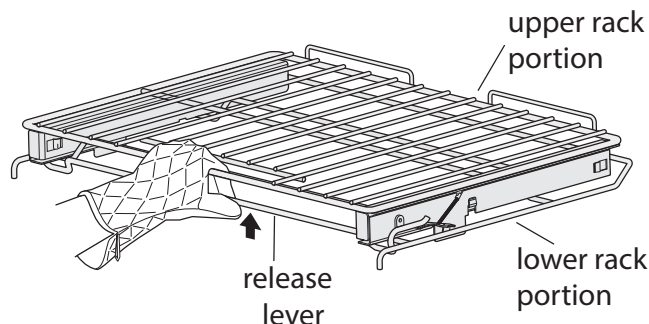

Figure 6: Luxury-Glide™ extendable oven rack
- To remove - Using one hand, reach through handle opening and lift up on the release lever located across the lower front of the rack as shown in Figure 6.